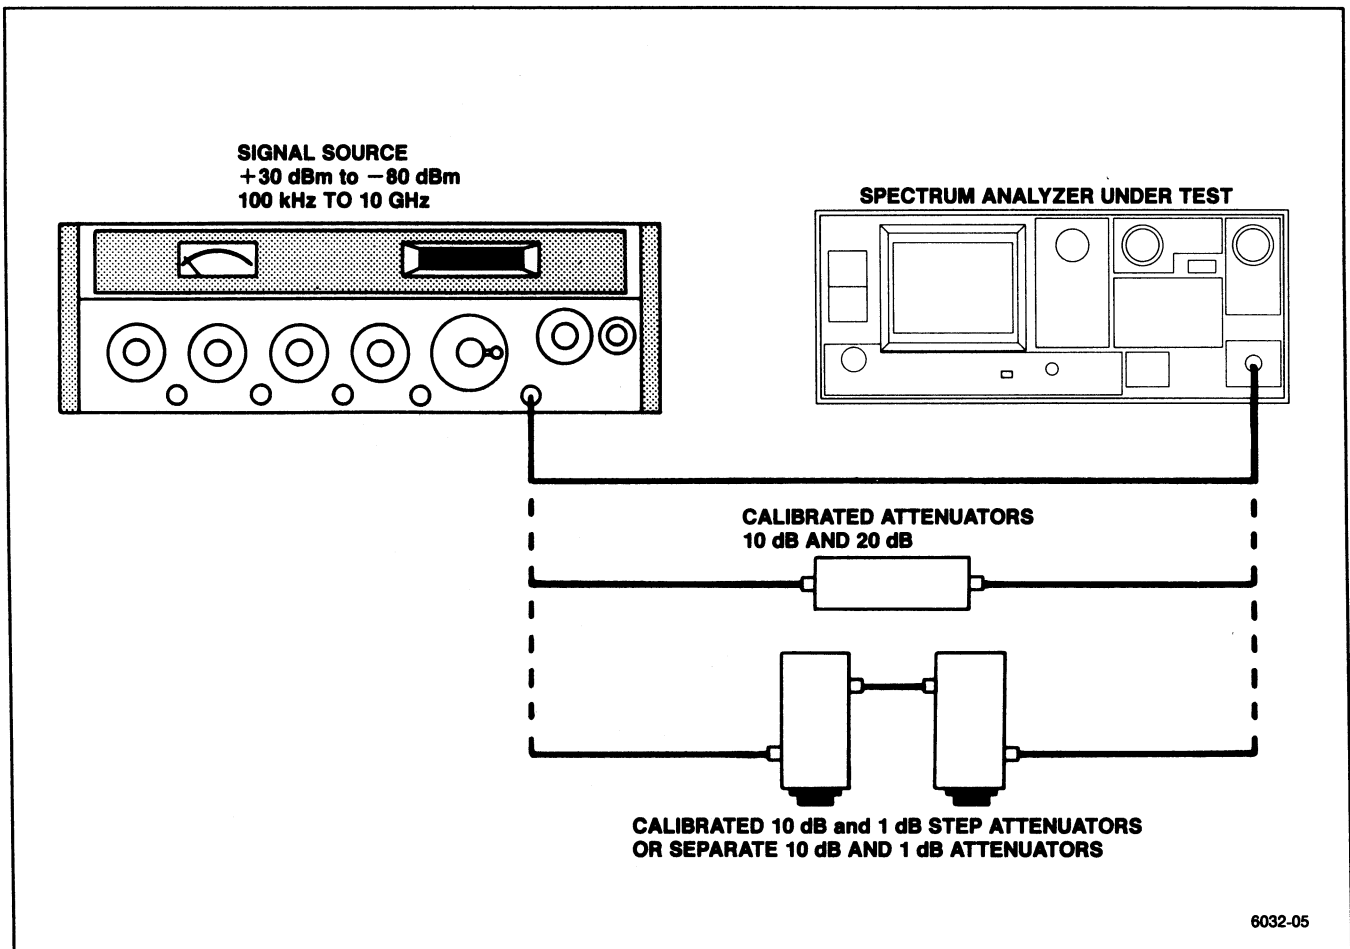

Figure 4-14. Test equipment setup for checking display accuracy, attenuator, and preselector image rejection.
a. Connect the test equipment as shown in Figure 4-14, using the 10 dB and 1 dB step attenuators. Set the Spectrum Analyzer controls as follows:
a. Connect the test equipment as shown in Figure 4-14, omitting the step attenuators. Set the Spectrum Analyzer controls as follows:
a. Connect the test equipment as shown in Figure 4-14. Set the Spectrum Analyzer controls as follows:
a. Connect the test equipment as shown in Figure 4-14, using the calibrated 10 dB and 1 dB attenuators (or connect the output of the generator directly to the RF INPUT if individual fixed attenuators are to be used as the standard). Set the Spectrum Analyzer controls as follows: